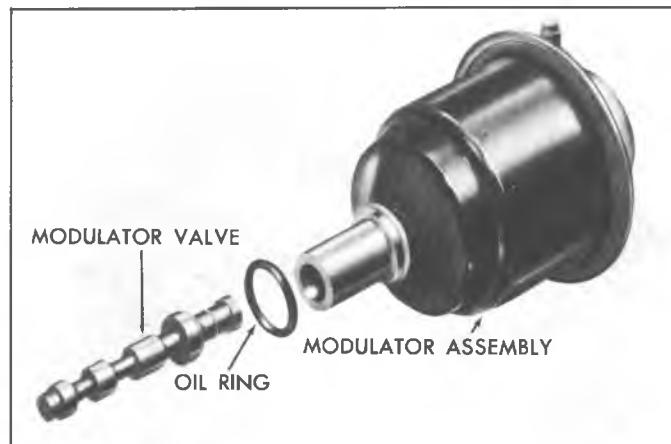

Fig. 7A-134C--Modulator Assembly and Valve
1. Inspect parking actuator rod for cracks, or broken spring retainer lugs (Fig. 7A-135C).